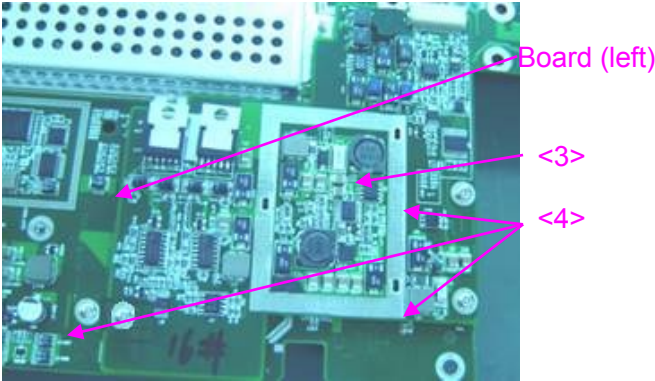

Figure 4-39
- A. Plug one end of the 4D signal line to the 4D board PCBA socket, and affix the cables tightly with fiber tape, as shown in figure 4-39.